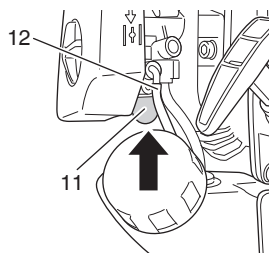

Fig. 9
- (2) Push priming bulb (11) several times so that fuel flows through return pipe (12). (Fig. 9)